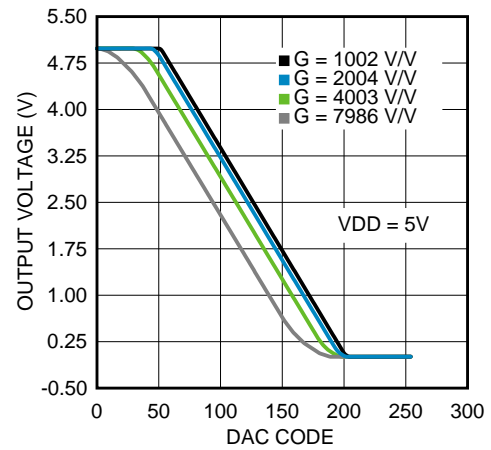

Figure 32. DAC DC Sweep With VDD = 5 V
- Power supply bypassing as shown in figure 32 is recommended.